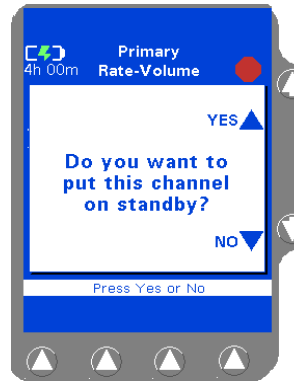

Figure 11-16 Standby Pop-up
- Use the $\uparrow\downarrow$ keys to highlight **Standby**, then press the **Select** soft key. The Standby pop-up is displayed (Figure 11-16).